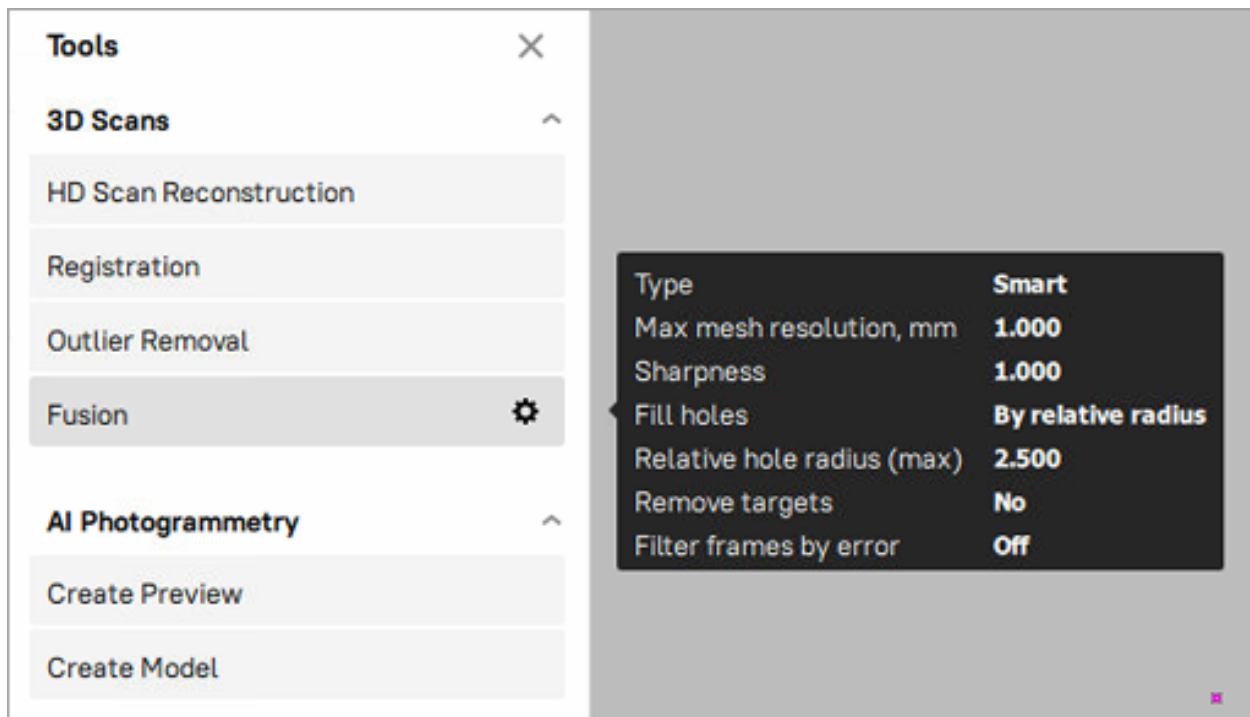

Figure 140: The *Fusion* pop-up with the default parameters.
4. Hover the mouse cursor over the *Fusion* label in order to activate the controls of the tool and the pop-up with the default parameters (see Figure 140).